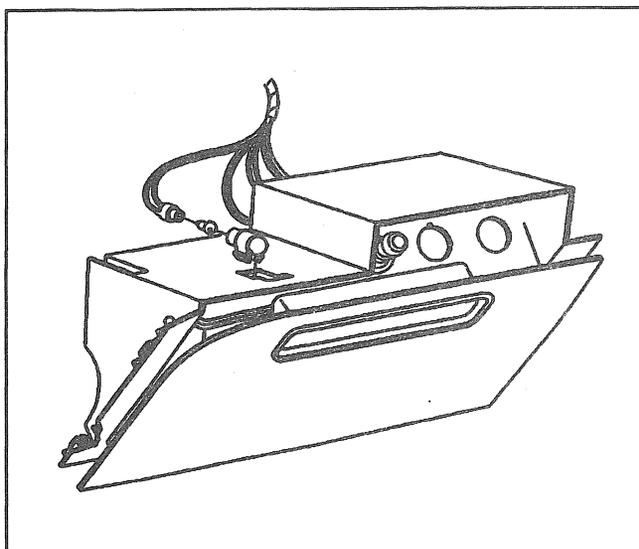

Figure 28—Ashtray Lamp Replacement
**↔ Remove or Disconnect (Figure 28)**
**↔ Install or Connect (Figure 28)**